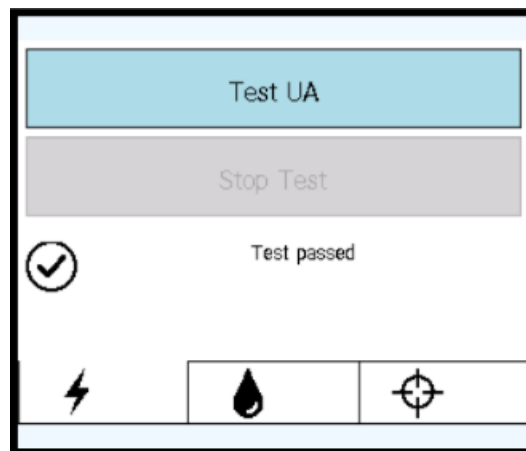
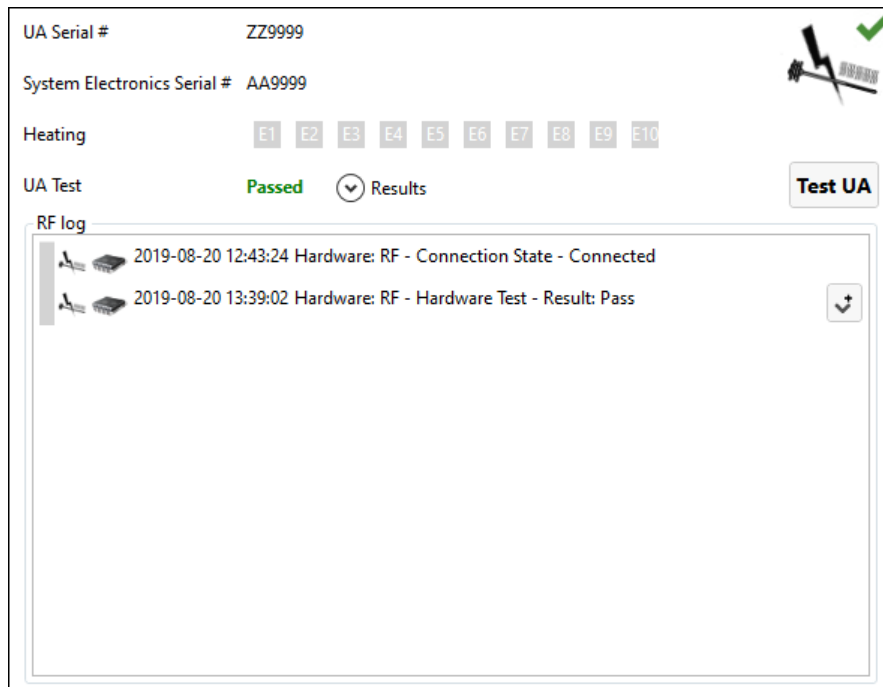

Figure 13: RF tab on PSIB display after successful RF connectivity test
Figure 14: RF information box in Setup workspace after successful RF connectivity test
- c. In the **RF** tab of the PSIB display (*Figure 13*), click **Test UA**.
The system will send a short burst of power to each of the ten UA elements to ensure continuity and functionality of all ten channels. This can also be done from the TDC Setup workspace from the RF information box in the top-right quadrant (*Figure 14*).
When the RF connectivity test is complete, the PSIB will display a short message (*Figure 13*). You can see detailed RF connectivity test results in the RF information box of the TDC software (*Figure 14*).